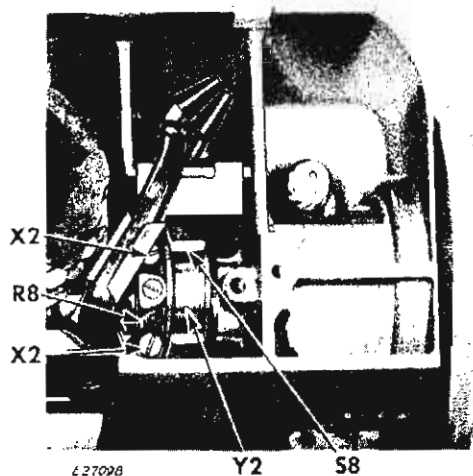

Fig. 317. Feed Lifting Connecting Rod on Arm Shaft
2. Remove two cap screws **X2**, Fig. 317 and remove connecting rod cap **R8**, Fig. 317.
Fig. 317 and so that the oil hole in the lower end the rod faces the front edge of machine bed.
2. Replace cap **R8** over top half of gear hub and fasten cap to rod with two screws **X2**, Fig. 317.
arm, through bottom of machine, so that it fits around eccentric **Y2** from bottom, as shown in Fig. 317.